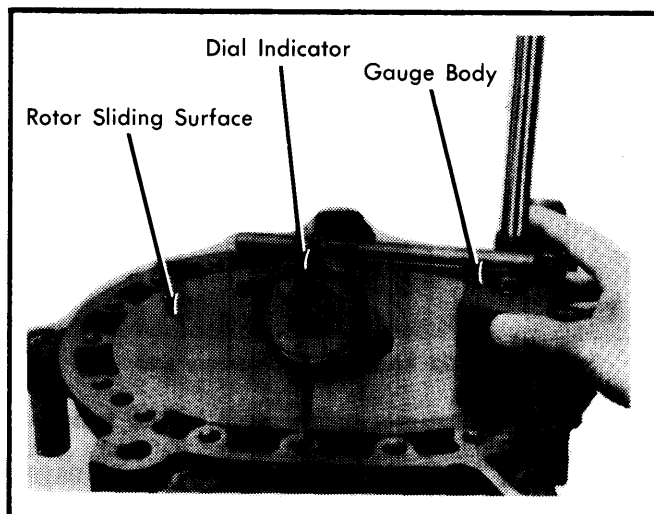

Fig. 7 Measuring Housing Wear with Dial Indicator
4) Check for wear on rotor sliding surfaces of housing and joint surfaces with rotor housing. Measurements are made using a dial indicator, Fig. 7. If wear exceeds .0039" (.10 mm), reface or replace housing.